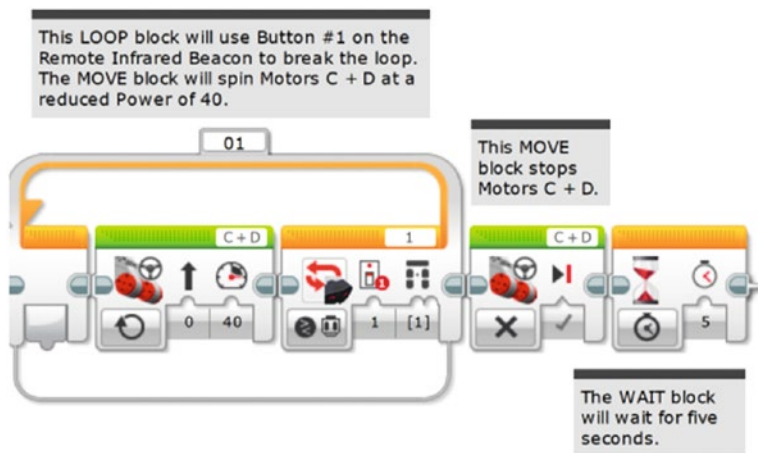

Figure 8-13. Add a WAIT block to allow the StringBot to stop swinging above the vase
Your StringBot should be directly over the vase at this point, but it might be swinging. Add a WAIT block (see Figure 8-13) before releasing the object from the carrier—a five-second wait ought to do it.
- *Second test—string parallel to floor:* This time, I put a few quarters and nickels in the carrier. About halfway across the string, one of the coins dropped out of the carrier. When the bot reached the vase and dropped the coins, only one nickel fell accurately into the jar. And it still seemed a little too fast to easily control, so I lowered the motor speed from 40 to 20. You can see the original speed of 40 as programmed in Figure 8-13. Try lowering it to 20.